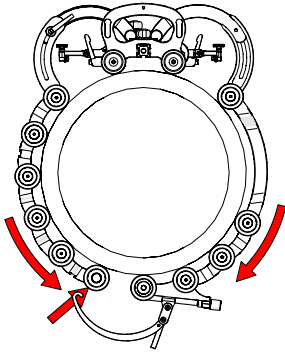
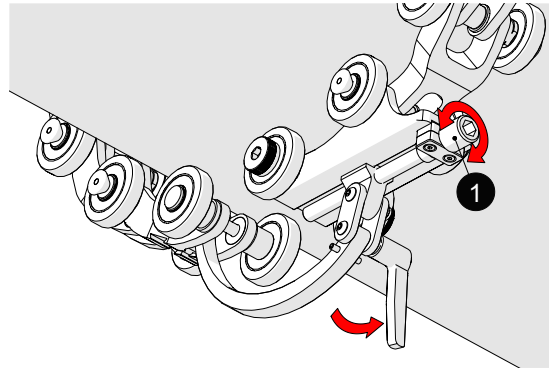

Fig. 125 - Hook buckle to catch link
Fig. 126 - Adjust pressure of buckle
6. Bring the buckle arm towards the catch link. Hook the buckle's arm to the middle axle of the catch link (Fig. 125). The buckle adjustment knob (Fig. 126-1) may have to be loosened to allow the arm to reach the catch link (Fig. 126).